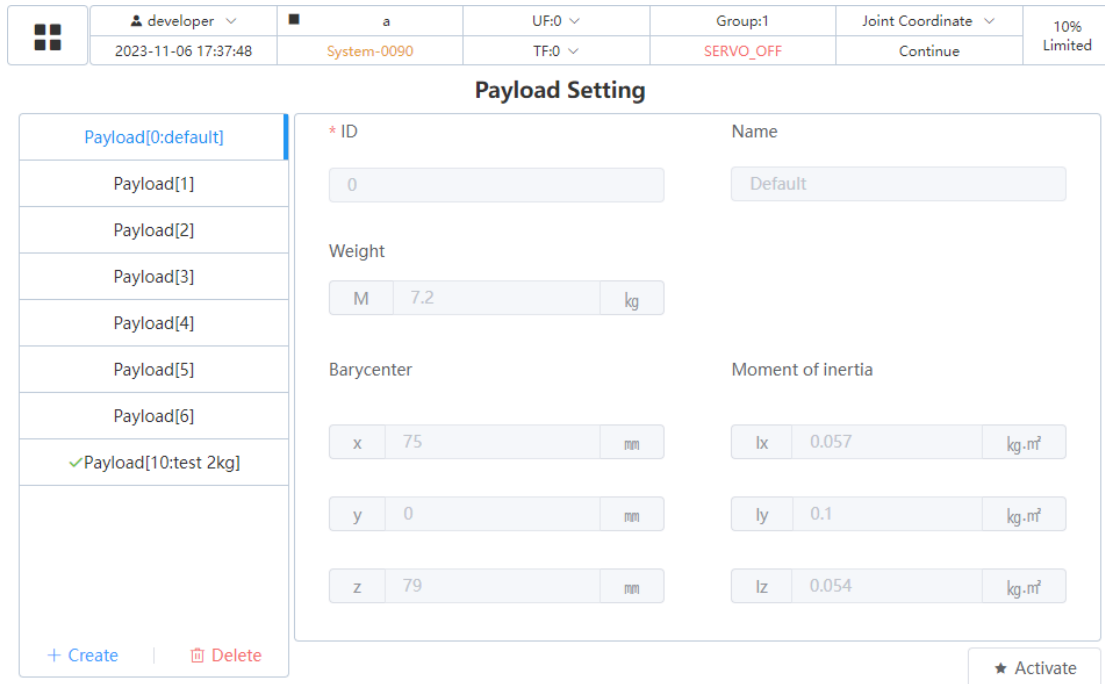

Fig. 2.38 Payload Parameter Interface
1. Successively click "Menu Button" → "System Setting" → "Basic Setting" → "Payload Setting" to enter the screen as shown in Fig. 2.38. The payload activated at default is set to [Payload: 0] and cannot be edited.